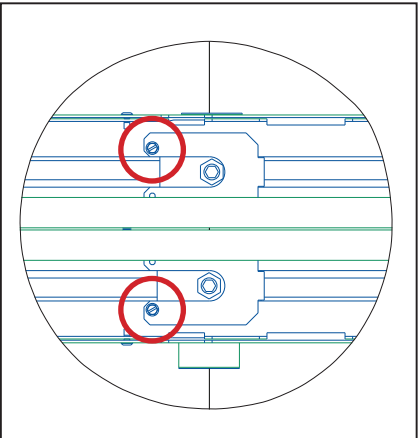

Figure 16: Secure Clip Screws
4. Replace the clip and secure with a #10-12 x $\frac{3}{8}$ " sheet metal screw (HC-1186) using the pre-drilled hole. Refer to **Figure 16**.